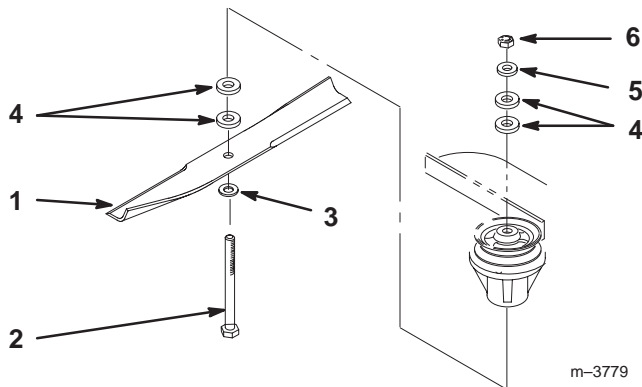

Figure 21
2. Remove the nut, blade bolt, cone washer, blade, spacers, and thin washer from the spindle (Fig. 21).
1. Place the blade onto the bolt and over the cone washer. Select the proper number of spacer(s) for the height-of-cut, and slide the bolt into the spindle (Fig. 21).
2. Install the remaining spacer(s) and secure them with a thin washer and a nut (Fig. 21).